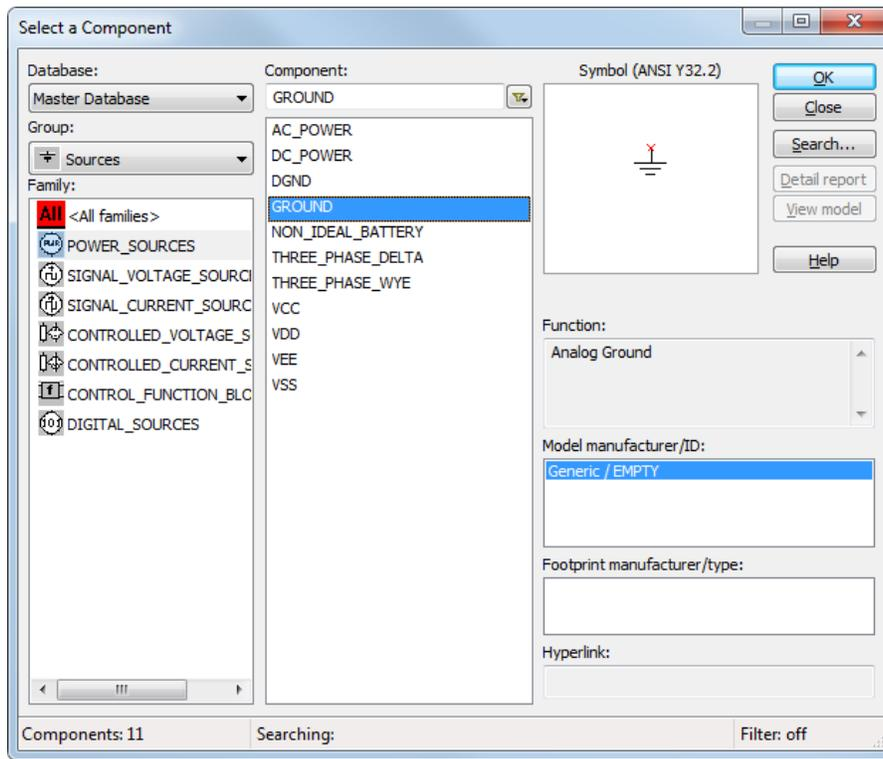

Figure 2. Select a Component window.
2. Select **Place»Component**. The **Select a Component** window appears (also known as the **Component Browser**), as shown in Figure 2.
2. Select the **GROUND** component (as shown in Figure 2).